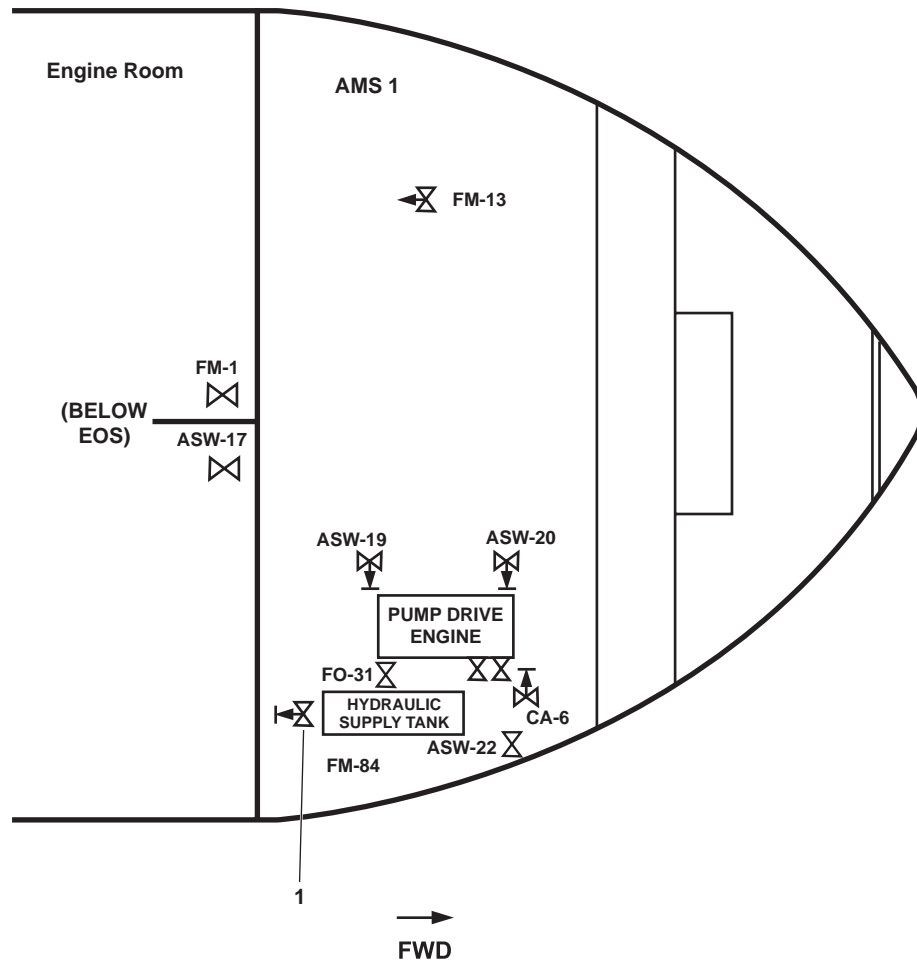

Figure 17. AFFF Tank Suction Valve Location
2. OPEN valve FM-84 (figure 17, item 1), AFFF TK SUCT. This valve is located below the deckplate.
2. CLOSE valve FM-84 (figure 17, item 1), AFFF TK SUCT.